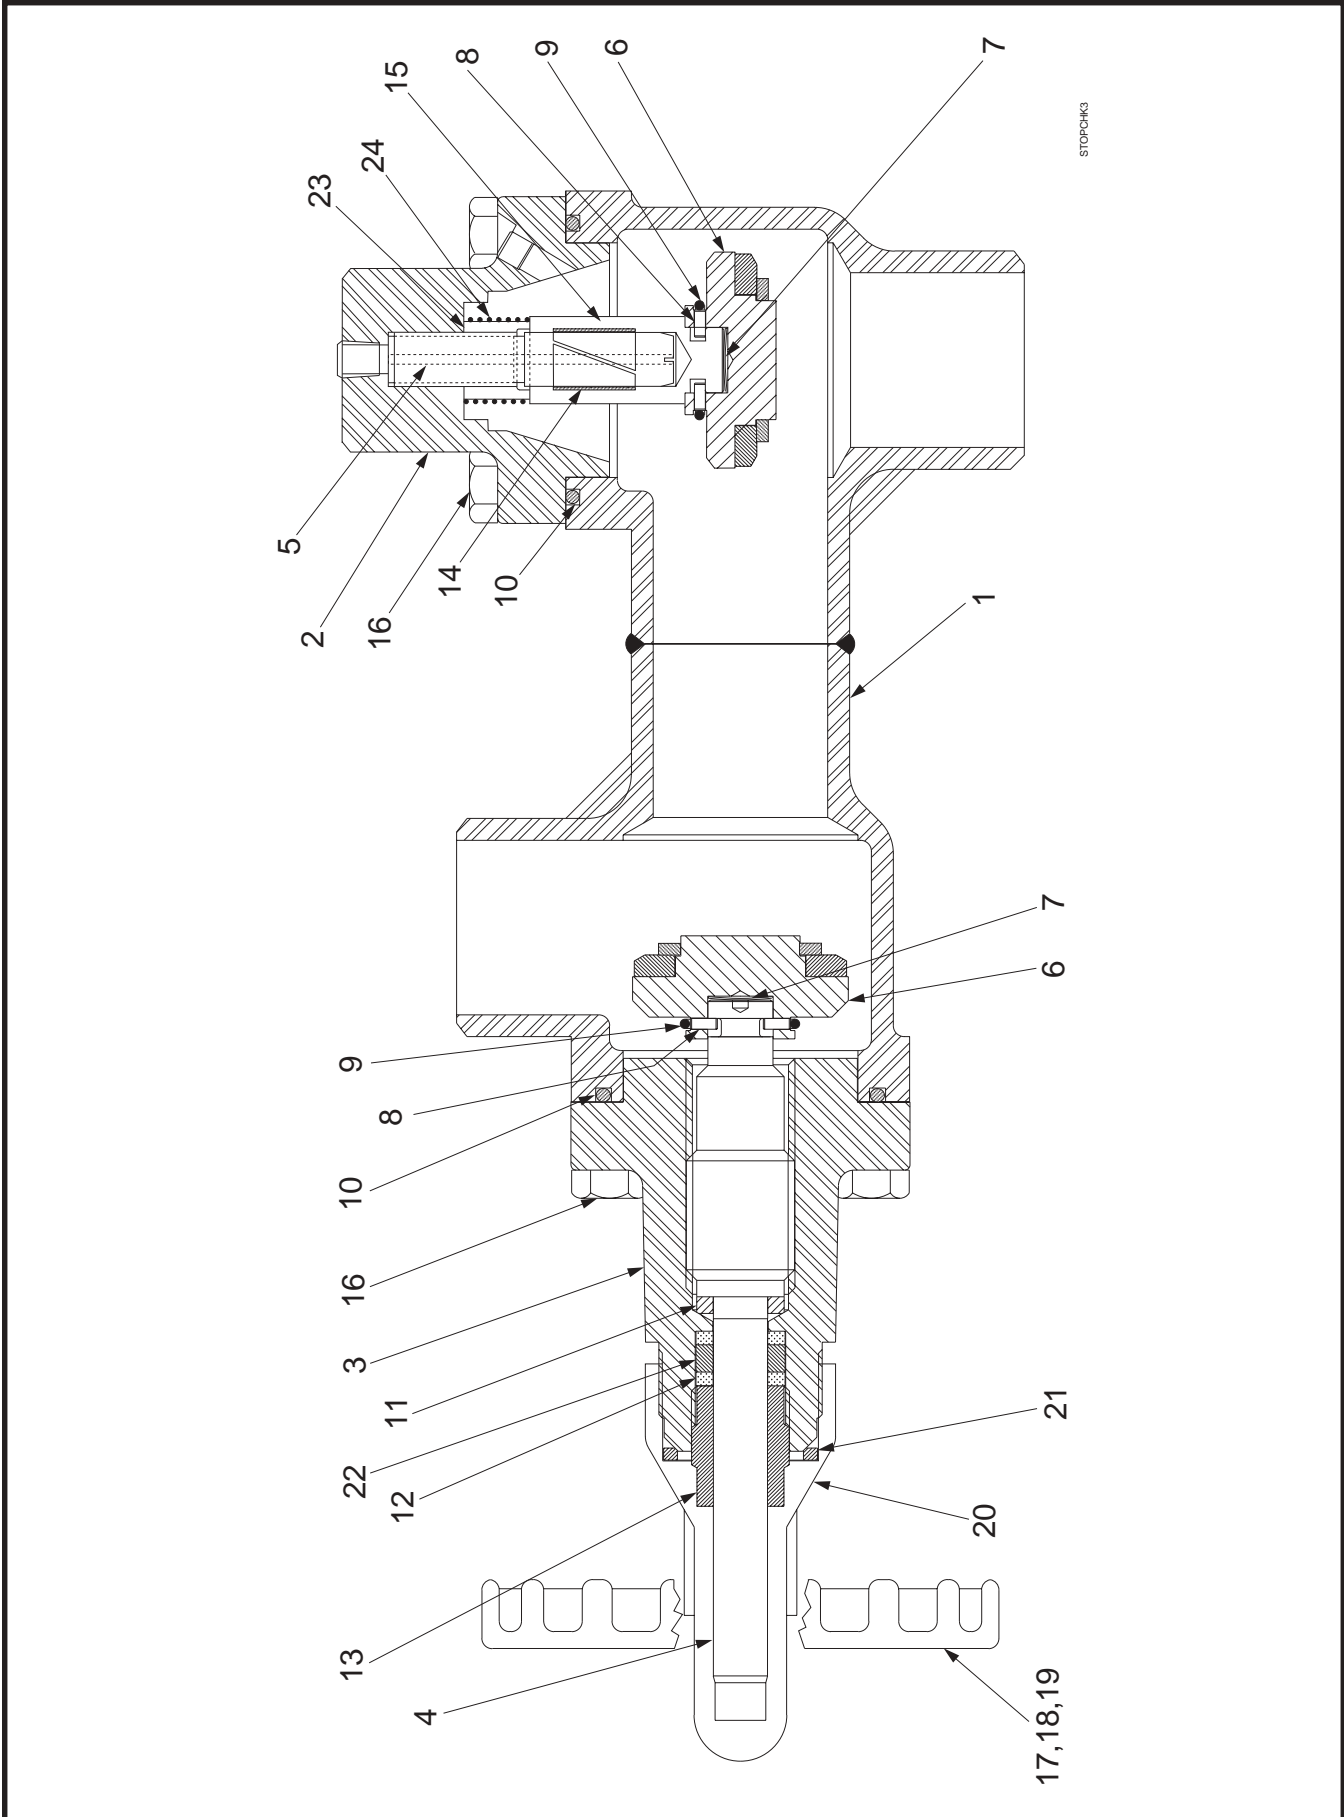

Figure 22. 4" Discharge Stop/Check Valve Assembly, RXF 58—101 (Frick).
*Note: For Check Valve parts see Figure 22.